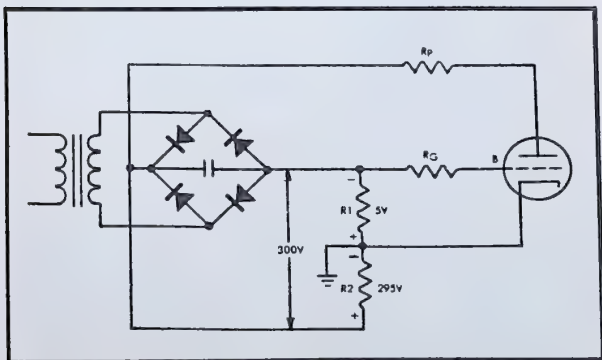

Fig. 10-18. Biasing system, voltage divider.
**Voltage Divider.** A voltage divider used to supply bias to a tube is shown in Fig. 10-18. As electrons flow down through  $R_1$  and